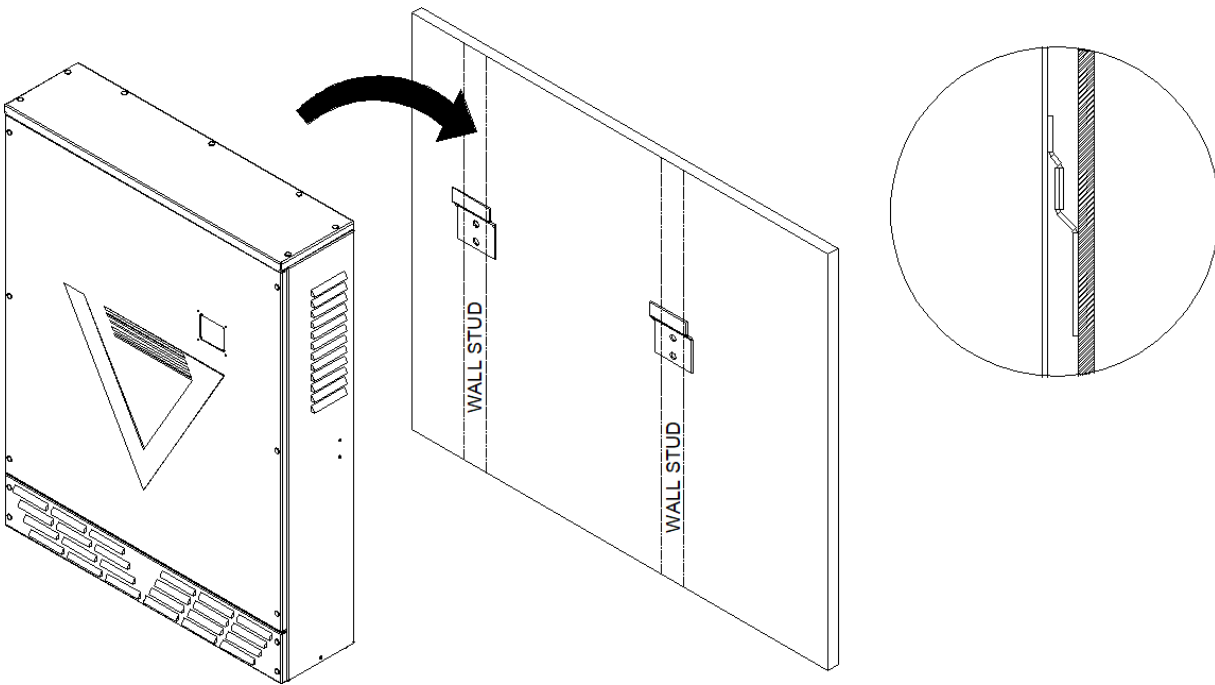

Figure 7
The NV14 Energy Storage System must be installed using the wall mounting brackets and hardware provided. The wall mounting brackets must be anchored to a minimum of two (2) vertical wall studs (See figure 7). 3/8" x 2 1/2" lag bolts with washers must be used to mount the wall mounting bracket to the vertical studs. This bracket is not intended to support the weight of the NV14 or NV24. Instead, it is intended to prevent a tip-over hazard.
The NV24 Optional Battery Cabinet must be installed using the wall mounting bracket and hardware provided. The wall mounting brackets must be anchored to a vertical wall studs similar to the installation of the NV14 (See figure 7). 3/8" x 2 1/2" lag bolts with washers must be used to mount the wall mounting bracket to the vertical studs. This bracket is not intended to support the weight of the NV14 or NV24. Instead, it is intended to prevent a tip-over hazard.